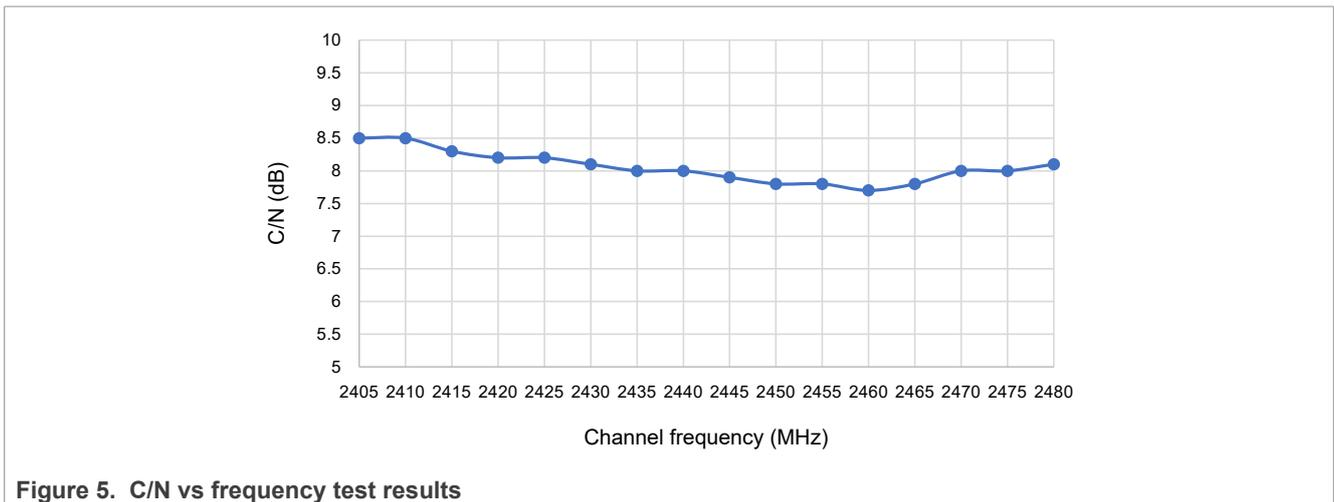

Figure 5. C/N vs frequency test results
5. For each channel of the desired signal, start from a C/N where PER is at 0 %, then decrease it until the criteria PER = 1% is met, and then record and plot the C/N value, as shown in Figure 5.
Figure 5 shows the results of the C/N vs frequency test.